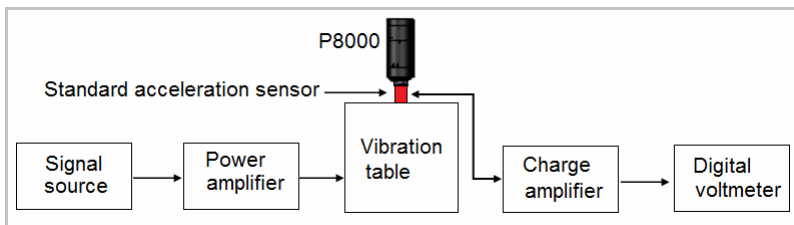

Figure 4.3 Wire connection of oscillating platform
3. Install the sensor on the oscillating platform as shown in Figure 4.3. Adjust the frequency and amplitude of signal source to the specified value in the regulations. When the oscillating platform has stabilized, click **Sample** in the interface of testing and wait for the sampling, prompting "sampling...". When the sampling finishes, the prompt message disappears. Signals gathered are displayed in the waveform area instead.